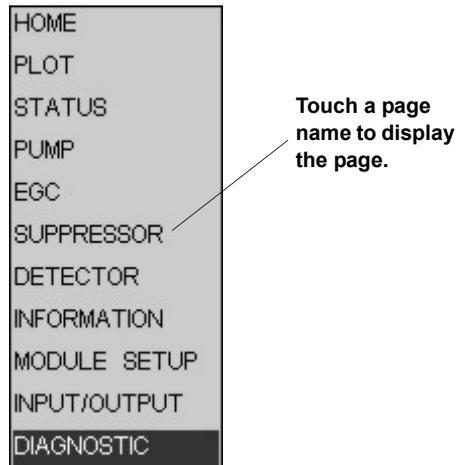

Figure C-3. ICS-2000 Touch Screen Menu of Pages
- Touching the page name (for example, ) on the bottom right corner opens a menu of pages (see Figure C-3).